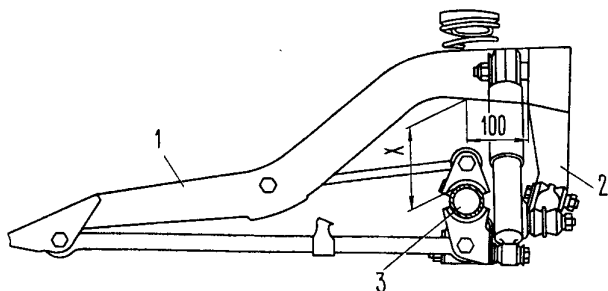

Fig. 4-16. Rear Suspension Installation Diagram: 1 - body sidemember; 2 - transverse radius rod bracket; 3 - rear axle beam; X = 152 mm
- load the rear end of the car so that distance "X" from the axle beam to the body sidemember measured at a point located 100 mm from the transverse radius rod bracket (Fig. 4-16) is 152 mm;